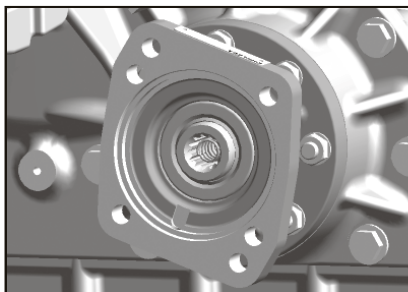

Fig. 11
- f. Mount P.T.O. housing to transmission as shown in **Fig 11**.